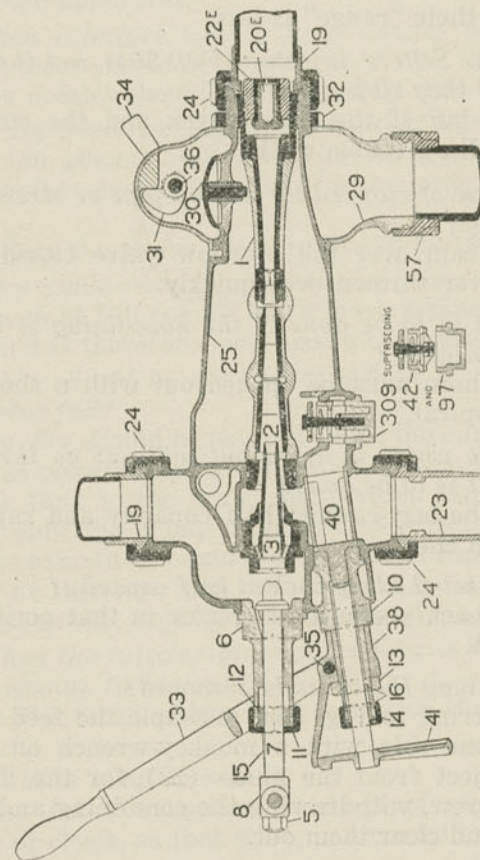

Fig. 364. Injector—William Sellers & Co.
*Q. In the Sellers' injector (Fig. 364) can the tubes be removed if they stop up?*
*A. Referring to Fig. 364, uncouple the feed pipe and swing it one side with a monkey-wrench on the lugs which project from the guide (22) for the line check (20); unscrew, withdrawing the combining and delivery tube (2) and clear them out.*